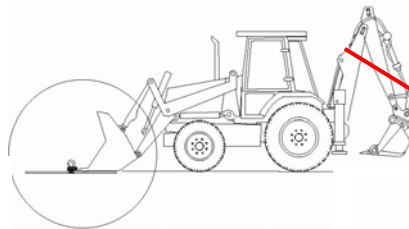

FIG 2
- **Caution:** Do not apply side loads in direction shown in FIG 2 & 3 below. Listed capacity is maximum safe working load.